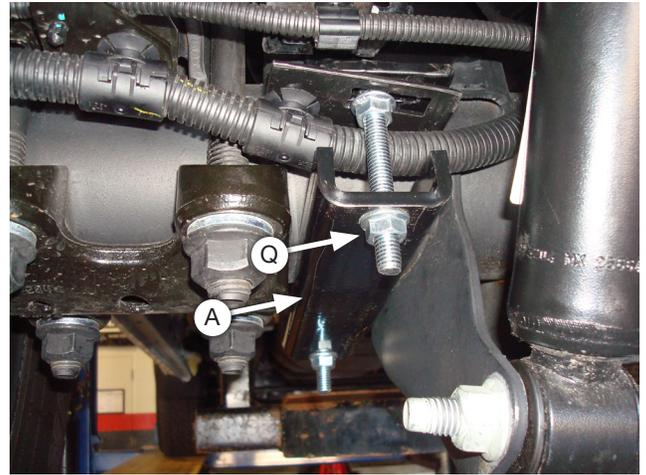

Fig. 16
4. Install the remaining 3/8" carriage bolts on the front side of the lower brackets and install the clamp bars (A) over the carriage bolts. Secure the clamp bar with the 3/8" serrated lock nuts (Q) (Fig. 16). Align the clamp bar so that it is somewhat centered between the shock bracket and leaf spring retainer. Torque clamp bar hardware evenly to 16 lb.-ft. (22Nm). Repeat for both sides.